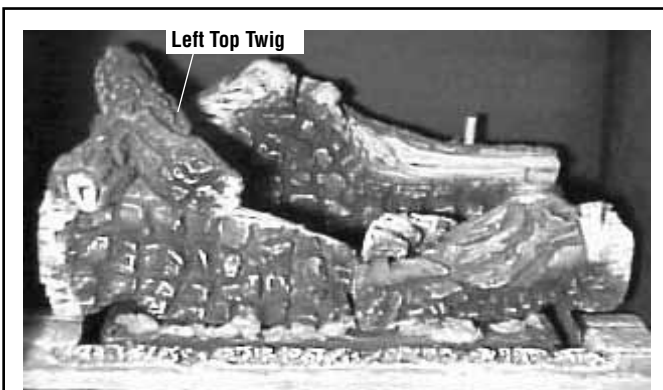

Figure 22
6. Install the left top twig onto the corresponding pin on the rear log and align it with the indentation on the front left log as shown in **Figure 22**.